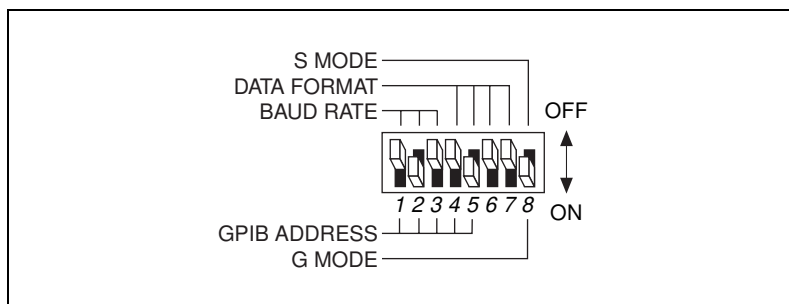

Figure I-4. Sample Switch Settings for an IBM PC and Serial Printer
1. Set the GPIB-232/485CT-A configuration switch to primary address 18, as shown in Figure I-4.